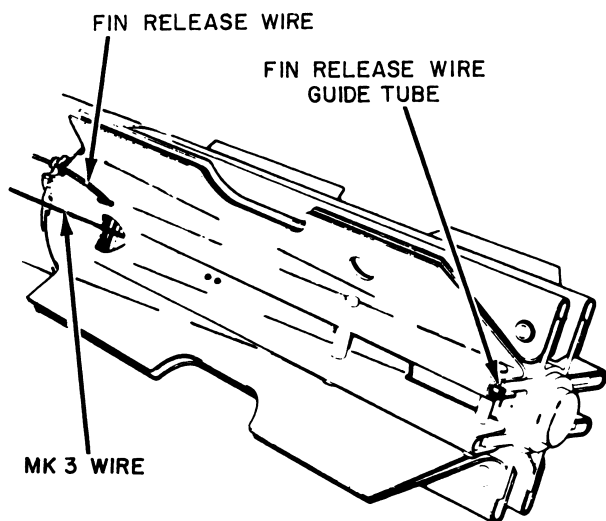

Figure 12-48.—Installing fin release wire in guide tube.
25. On the Mk 15 Mod 2, install the fin release wire through the release band and into the slot in the top of the fin blade. (See figure 12-48.) Feed the wire into the fin blade until it emerges from the aft end of the fin. Disregard all warning decals on the fin concerning Fahnestock clips.